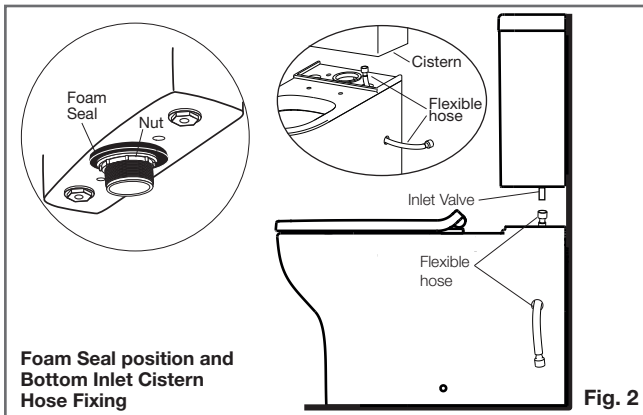

Fig. 2
- 1- Securely attach the self-adhesive Foam Seal around the outlet on the base of cistern, as detailed in **Fig. 2**. Remove outlet valve to gain access to the cistern fixing holes.
- 2- Connect flexible hose to inlet valve and thread other end of flexible hose through side hole on pan, as detailed in **Fig. 2**. Position cistern onto pan and align the cistern fixing holes with the threaded fixing holes located in the cistern platform. Fit the seals onto the Winged Fixing Bolts.